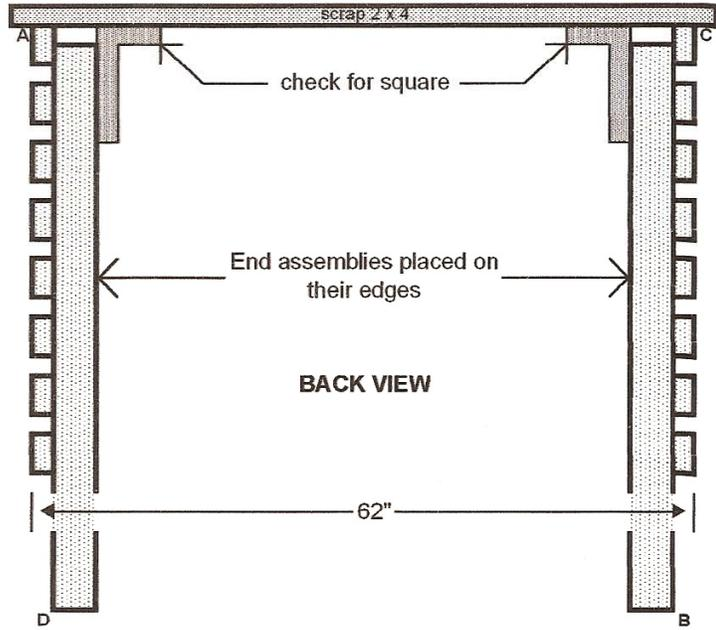

Figure 7
STEP 7: Place a 62" 2x4 across the 4x4's to match up and overlap the outermost 2x4's on the top of the end assembly. Check that the 2x4 is square to the 4x4's and attach with 3" deck screws. Place another 62" 2x4 across the 4x4's to match up and overlap the outermost 2x4's on the bottom of the end assembly and check that it is square and attach with deck screws. (Figure 7).
STEP 9: Carefully roll the caddy until the attached 62" 2x4's are on the ground. Repeat the procedure outlined in Step 7 to attach two 62" 2x4's to the front of the caddy. (Figure 7).